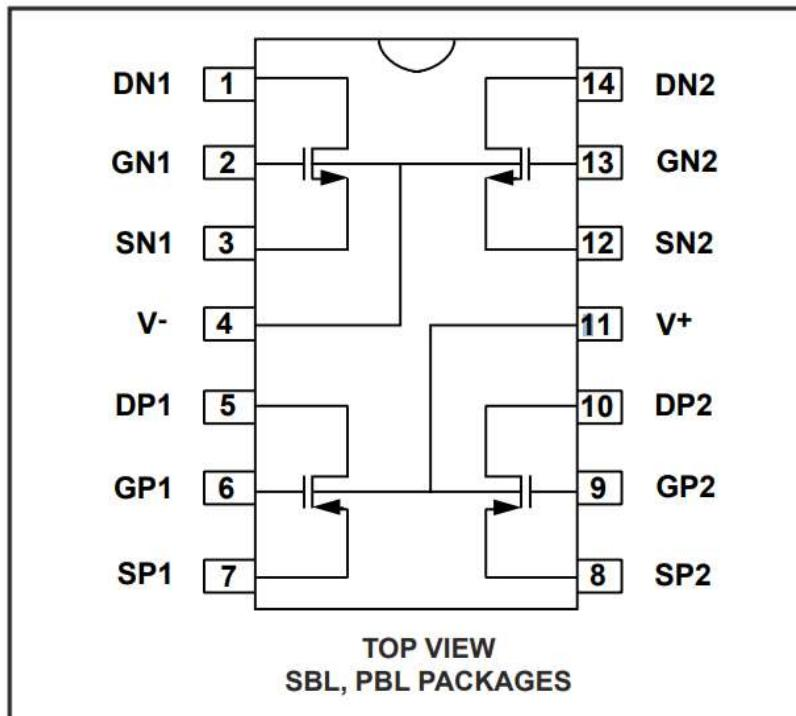
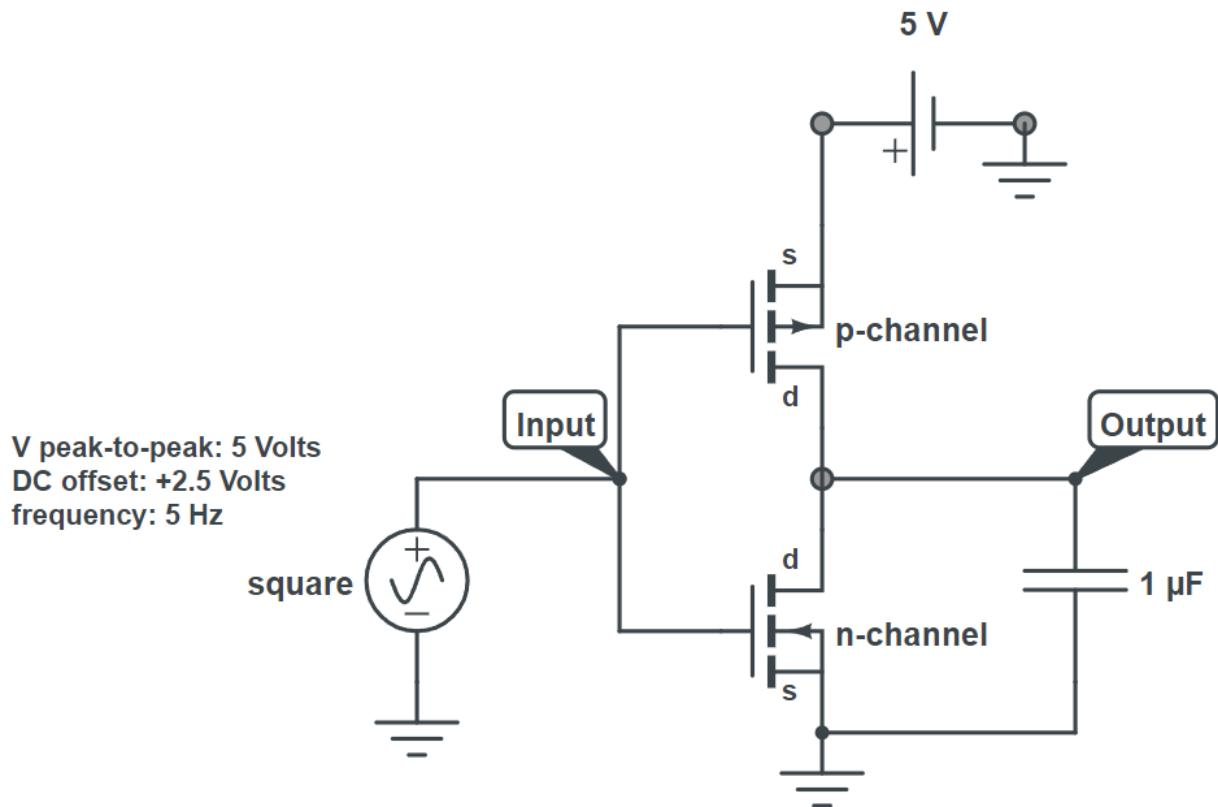

FIGURE 10-5: ALD1105 PBL Pinout
FIGURE 10-7: CMOS Inverter Schematic for Voltage Transfer Measurement
1. Construct the circuit as shown in Figure 10-7, using the pin level diagram from the ALD1105 data sheet, or refer to Figure 10-5.
5. Remove the capacitor from the circuit in Figure 10-7.